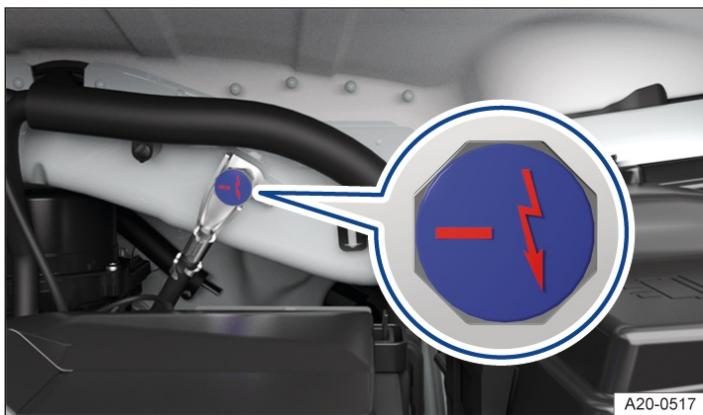

Fig. 1 In the bonnet space: jump-start connection point (earth connection).
- The jump-start connection point (earth connection) is used for connecting the *black* jump lead → *Fig. 1*.